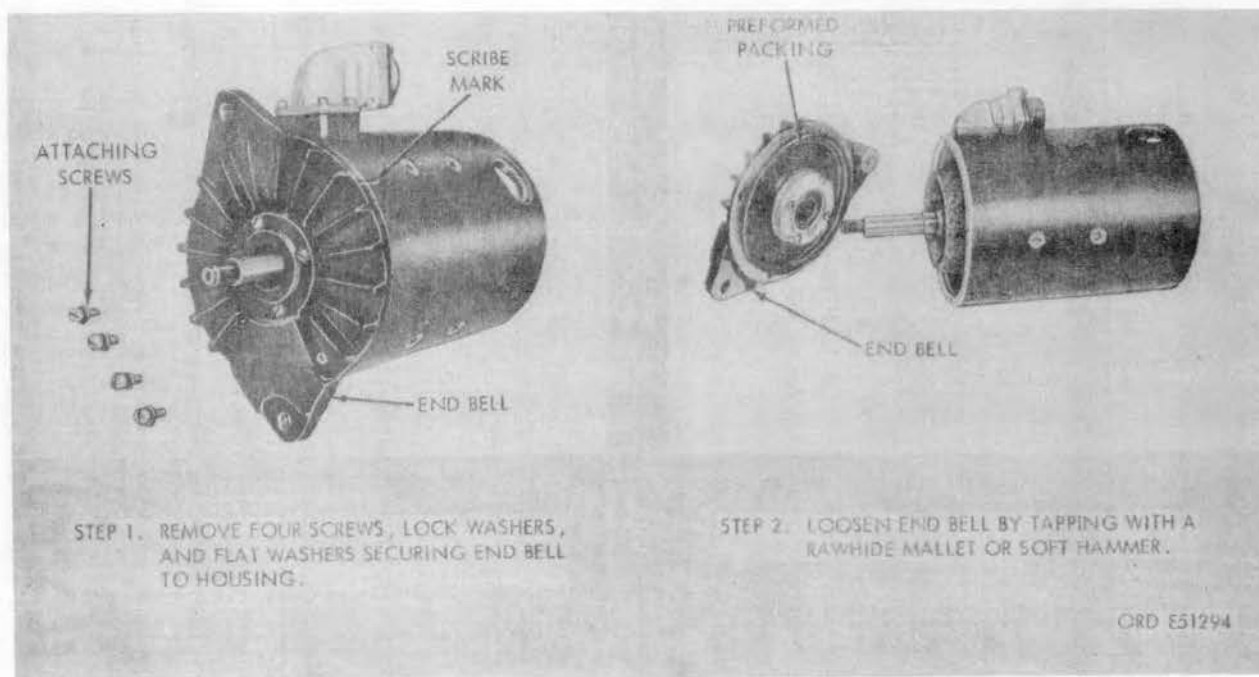

FIGURE 12. REMOVING DRIVE END BELL.
e. Scribe a mark with a sharp tool across drive end bell and generator housing. Remove drive end bell as shown in figure 12.